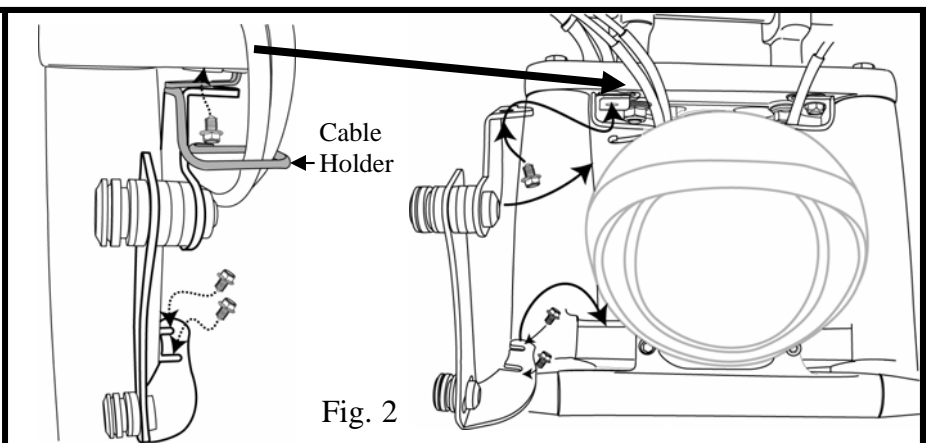

Fig. 2
3. On the throttle side, locate and loosen, almost to the point of removal, the two 8mm hex head bolts on top of the lower triple tree that secures the chrome fork cover. Locate the cable holder mounted under the upper triple tree. (See Fig. 2) Using a 12mm wrench, remove the cable holder bolt but hold the cable holder in place while slipping the lower mounting bracket slots onto the 8mm Hex Head Bolts. Slip the upper mounting bracket on to the cable holder so that the cable holder is between the upper mounting bracket and the upper triple tree, make sure that the cable holder's locator tab is inserted in the locator hole. and loosely tighten, tighten this bolt after the windshield is in place. (See Fig. 2)
4. Push the lower bracket all the way towards the chrome fork covers and loosely tighten the two lower bolts. Tighten these bolts after the fairing is in place (See Fig. 2)